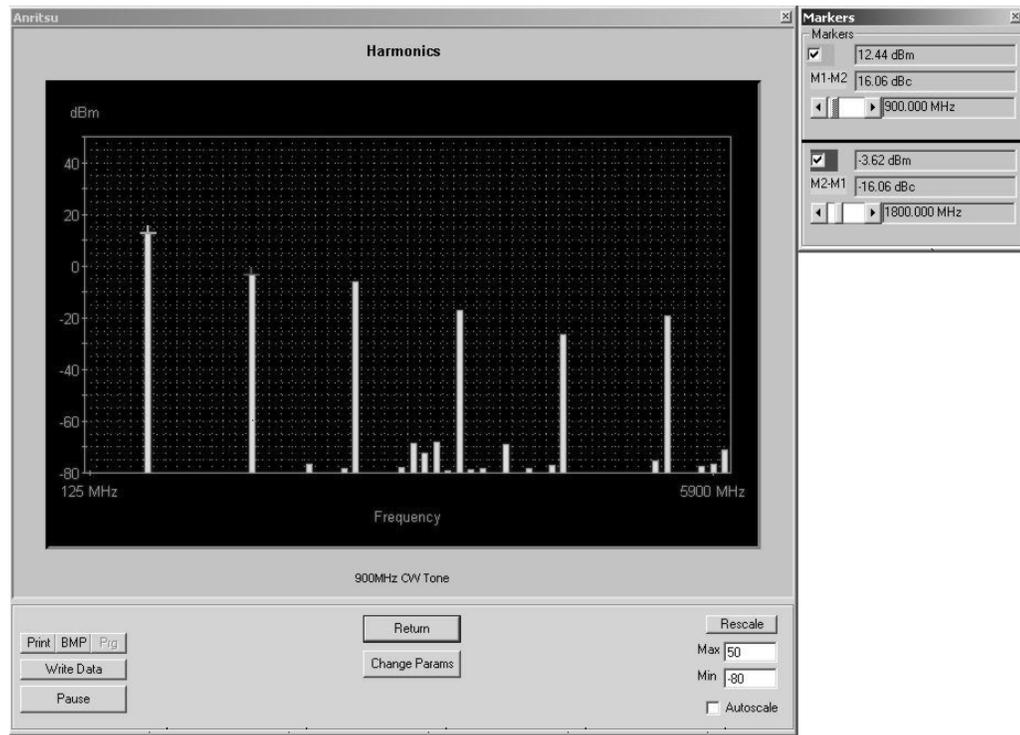

Figure 5-12. Harmonics Test Screen
- **Select Start Test:** Observe that the test screen (Figure 5-12) appears.